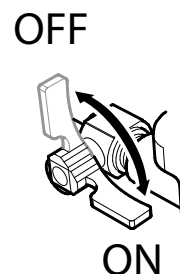

Figure 18. Water Valve (ON)
4. If applicable place water valve (Figure 18) in the **OFF** position.